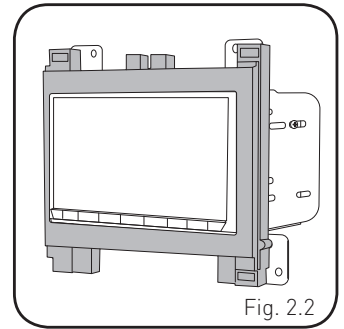

Fig. 2.2
- Place the bezel onto the radio and secure it with the six Phillips screws provided with the CHA1. (Fig. 2.2, 2.3)